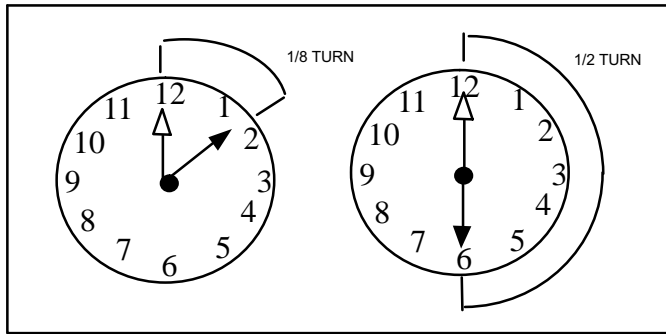

Figure 8. Tightening Distance
3. Connect the liquid line assembly with the brass nut to the liquid line orifice housing. Finger tighten and use an appropriately sized wrench to turn an additional 1/2 turn clockwise as illustrated in figure 8, or 20 ft-lb.
2. Attach the stubbed end of the TXV to the liquid line orifice housing. Finger tighten and use an appropriately sized wrench to turn an additional 1/2 turn clockwise as illustrated in figure 8, or 20 ft-lb.
4. Attach the liquid line assembly with brass nut to the TXV. Finger tighten and use an appropriately sized wrench to turn an additional 1/2 turn clockwise as illustrated in figure 8, or 20 ft-lb.
6. Connect the equalizer line from the TXV to the equalizer suction port on the suction line. Finger tighten the flare nut plus 1/8 turn (7 ft-lbs) as illustrated in figure 8.